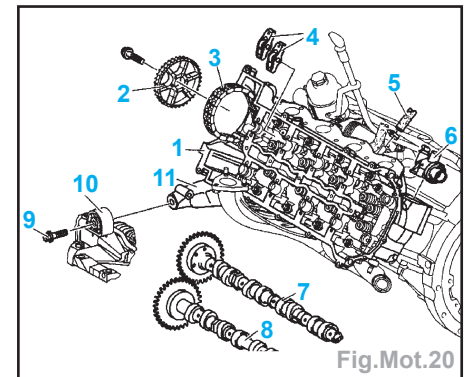

Fig.Mot.20
• le thermostat (6) (Fig.Mot.20),